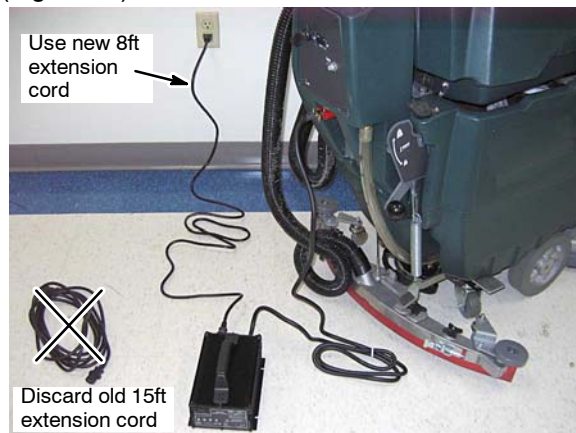

Fig. 16
17. Discard the old 15 ft/4.5m on-board charger extension cord. Use the new 8 ft/2.5m extension cord provided with new off-board charger (Figure 16).